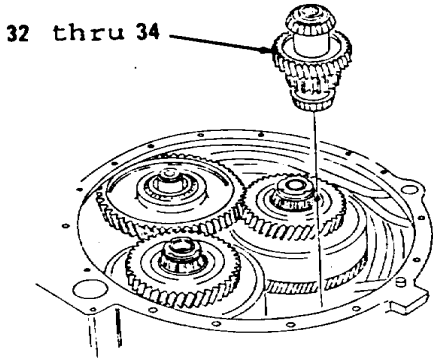

Figure 14-7.
- 27. Evenly and gradually tighten three forcing screws and remove cover (28).
- 32. Remove items 32 thru 34 as an assembly (Figure 14-7).